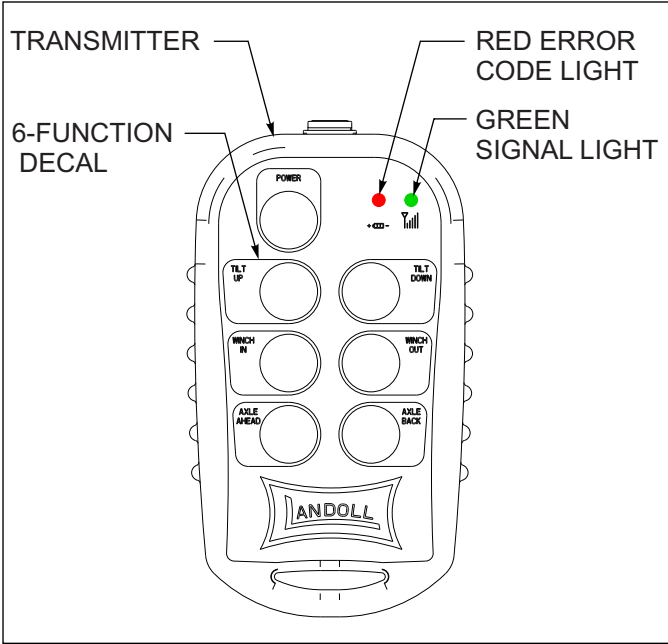

Figure 3-15: Remote Control Transmitter
1. A wireless six function radio remote control is available (**See Figure 3-15.**)